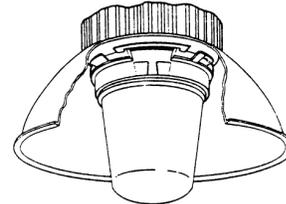

FIGURE 5
- Continue to rotate reflector clockwise until reflector tabs engage final captivated bosses and the reflector "snaps into position." See Figure 5.